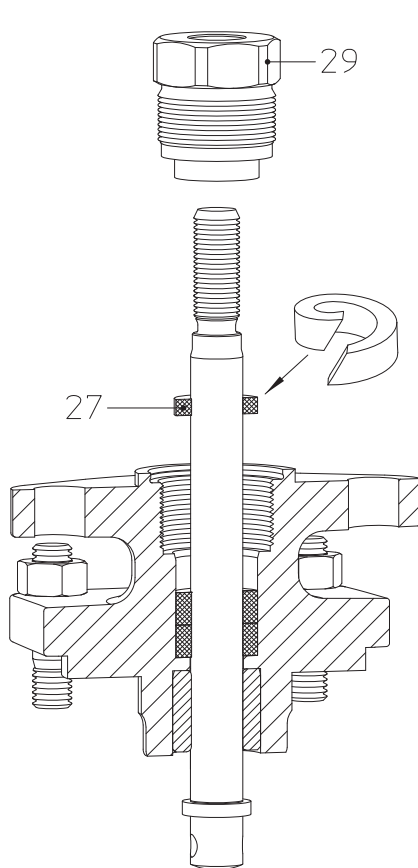
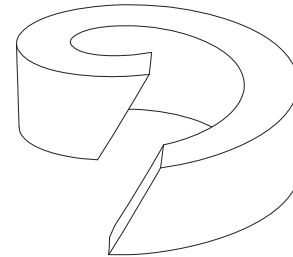

Fig. 10: Stuffing box packing DN15-100
Fig. 13: split packing ring
- Insert new packing ring (pos. 27) as shown in Fig. 10 - Fig. 13.
If a split packing ring is used, cut with a chamfer as shown in Fig. 13.